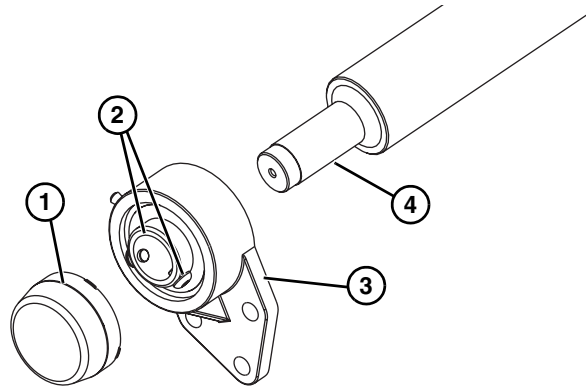

Figure 95
2. Remove the bearing cover (Figure 95, item 1).
3. Use a hex wrench to loosen the bearing shaft assembly fasteners (Figure 95, item 2).
4. Slide the bearing flange assembly (Figure 95, item 3), off the spindle shaft end (Figure 95, item 4).